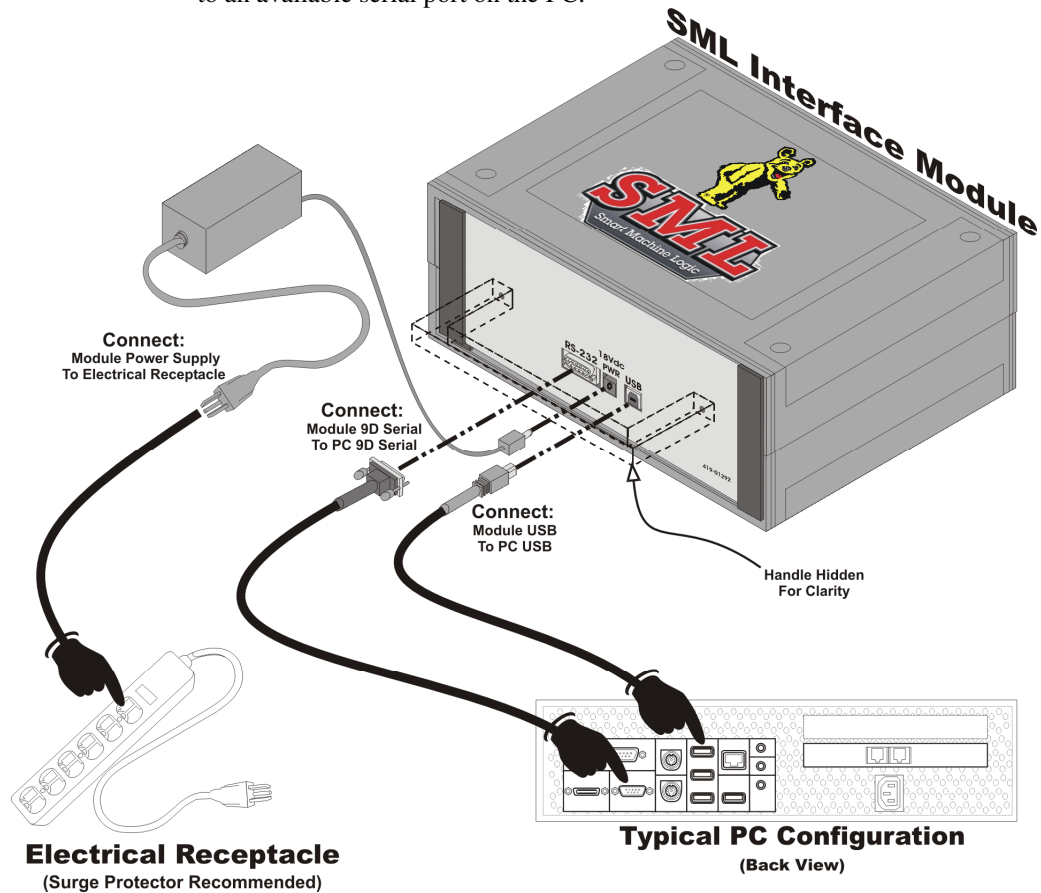

Figure 1-7. Module Connections - Front Panel
1.3.1 The equipment that was unpacked from each shipping container must now be setup or stored. Use Figures 1-7 through 1-9 as guides, as needed.
1.3.3.1 Using Figure 1-7 as a guide, position the SML Interface Module on a flat surface and connect cables to the front panel of the module, as follows: